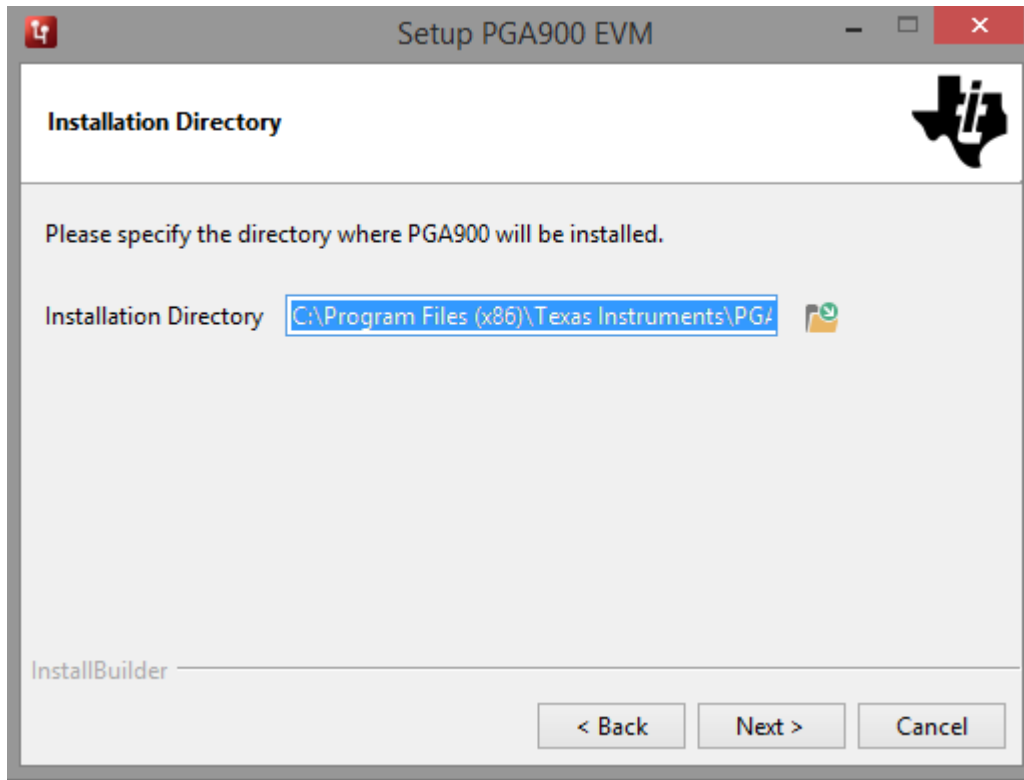

Figure 1-6. Destination Directory
3. Set the destination directories for the PGA900 GUI installation and click the **Next >** button as shown in Figure 1-6.